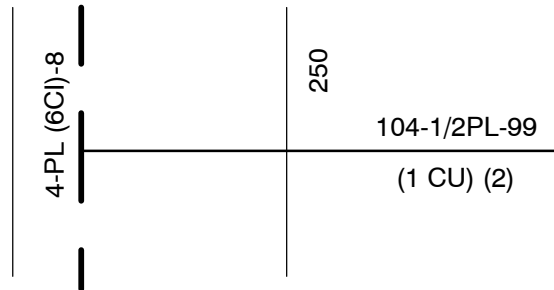

Figure 1
- (1) It is not practical or economical to remove the previously inserted pipe.
- (2) The installation is made in accordance with Numbered Document A-75 or A-90, as applicable, particularly with respect to protecting and supporting the entry and exit points.
- (3) The installation is mapped according to the provisions in Utility Standard D-S0457, which require that both the casing size and casing material be identified. For example, a 1/2" plastic service inserted into a 1" copper pipe that is inserted into a 2" steel line is mapped as shown in Figure 1 on Page 4.
- (4) Squeezing of the outer casing shall only be allowed in the case of an emergency. If the outer casing pipe is squeezed, the casing shall be grounded. The PE gas-carrier pipe shall be replaced after flow control is no longer needed.